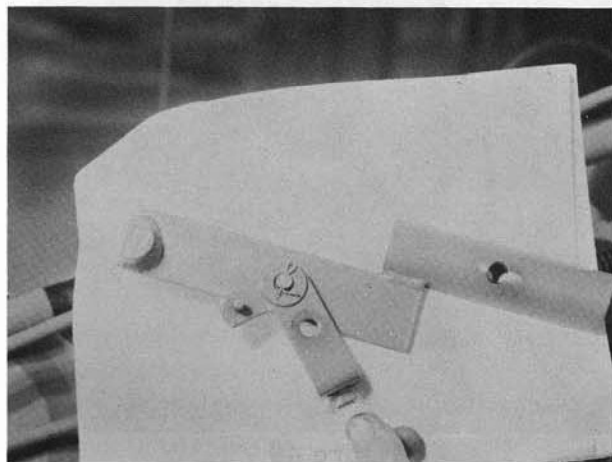

Figure 49
27. Mount the Shifter Lever on the Shifter Bracket, as seen in Figure 49.